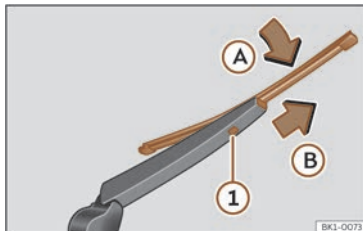

Fig. 188 Changing the rear wiper blade
- Rotate the blade slightly >>> **Fig. 188** (arrow **A**).